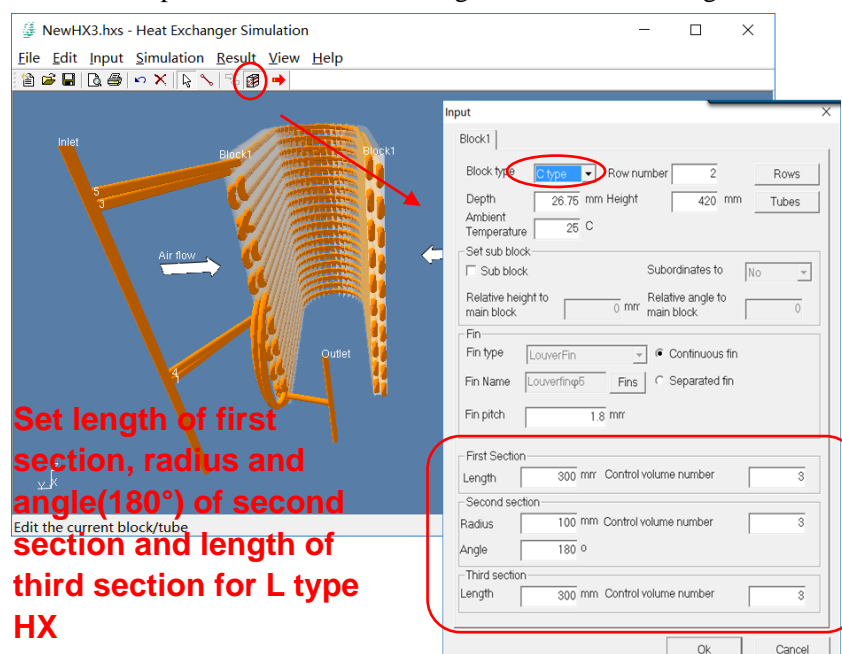

Fig. 10-30 Input dimensions of C typed fin-and-tube heat exchanger
Step 5.1: Input dimensions of fin-and-tube heat exchanger, just as Fig. 10-30.
In this dialog, users need to input the dimension parameters of L typed heat exchanger, including the length of the first section, radius and angle (180°) of second section and the length of the third section, as shown in Fig. 10-30.